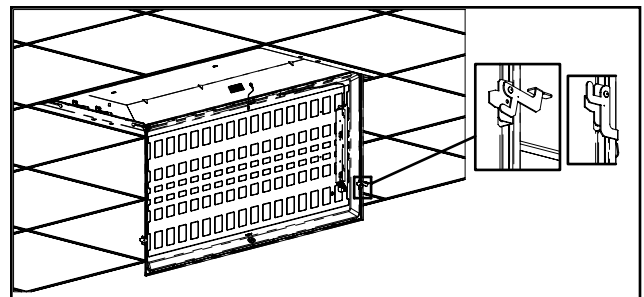

Figure 16.
16. Ensure both latches at the bottom of LED Panel (C) are in the open position as shown in Figure 16.